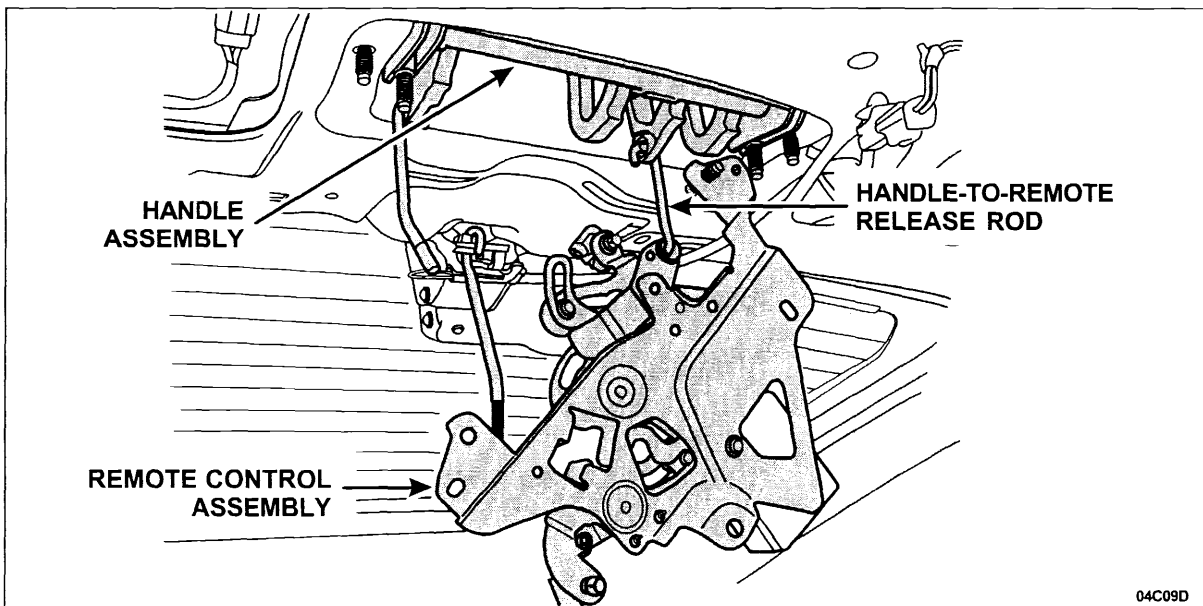

FIGURE 4
7. Disconnect the liftgate handle-to-remote release rod from the remote control assembly, then remove the remote control. See Figure 4.
2. Connect the liftgate handle-to-remote release rod to the remote control assembly. See Figure 4.